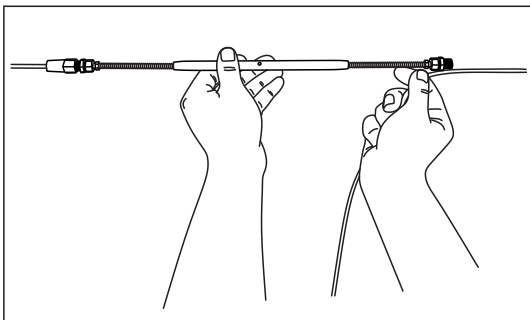

Fig. 8
- Hold the turnbuckle and bring the free end of the cable and the turnbuckle together tightly (Fig.8).